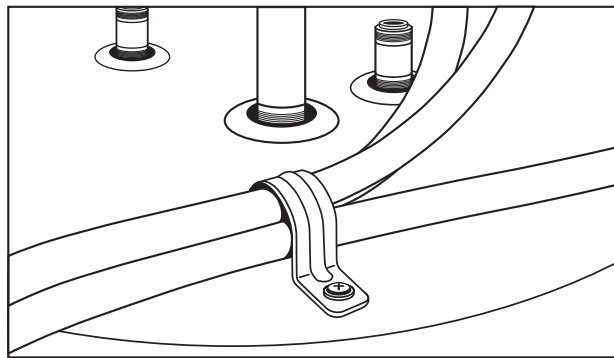

FIGURE 6.
12. Run all three hoses through the metal clamp newly mounted on the top cover. Refer to Figure 6.